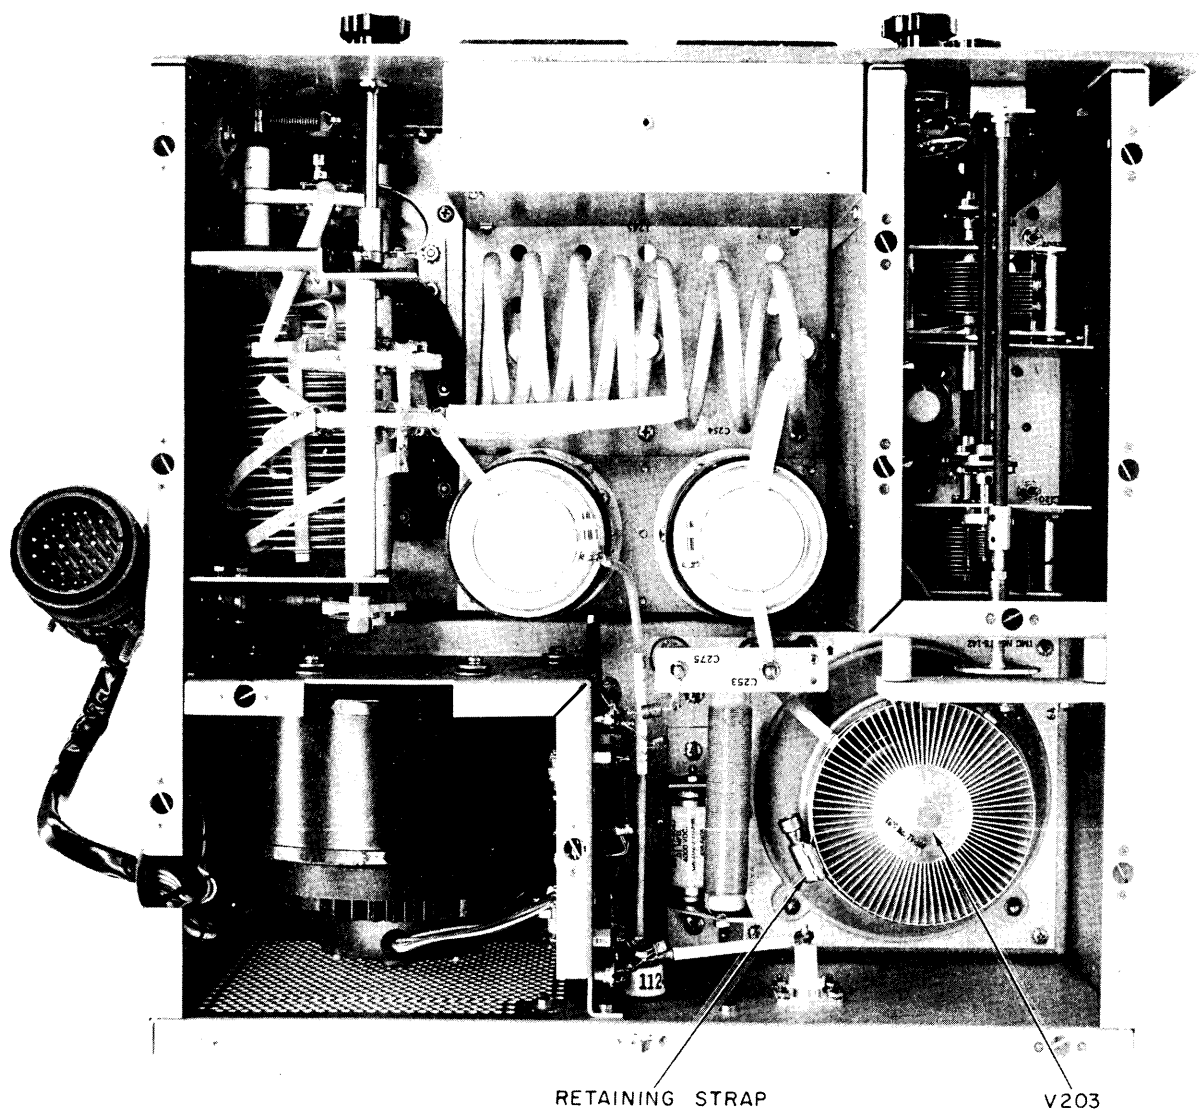

Figure 2-15. RFC Amplifier Drawer, Top View.
- c. Loosen screw on retaining strap (see figure 2-15).